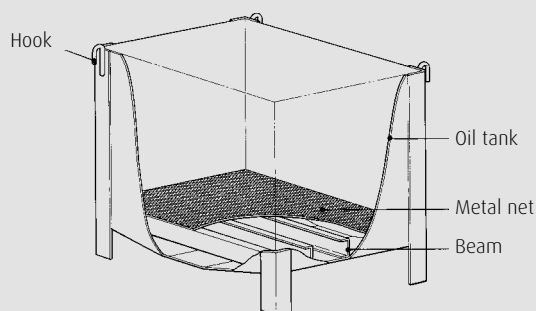
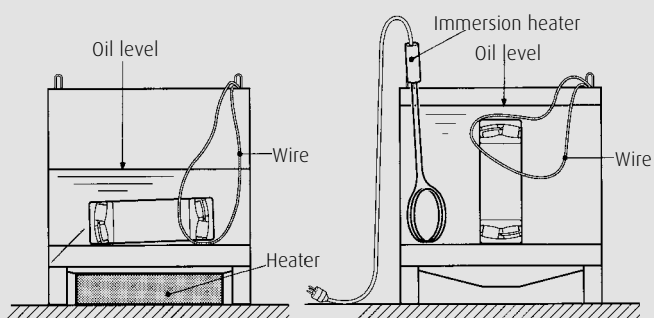

Fig. 6.4 Structure of oil heating tank
Fig. 6.5 Heating method
a) Oil heating tank method (Fig. 6.4 and Fig. 6.5 (a) (b))